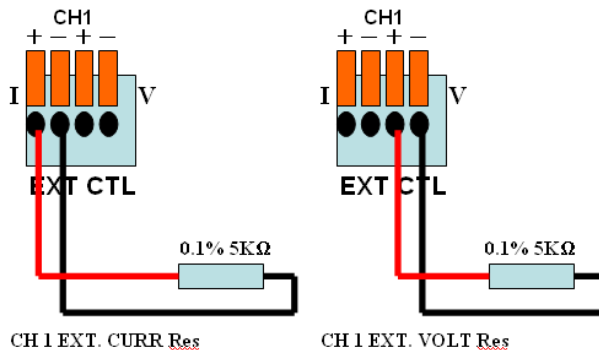

Figure 37- External Resistance Control Calibration setup (left) Current (right) Voltage
- To begin calibration with the external resistor, remove the DC source and connect the precision resistor to the control card, as shown in Figure 37(right) below.
- Once finished, **CH1 EXT. CURR Res** will be selected. Connect the precision resistor as shown in Figure 37(left). Press **Enter** to proceed with the calibration.